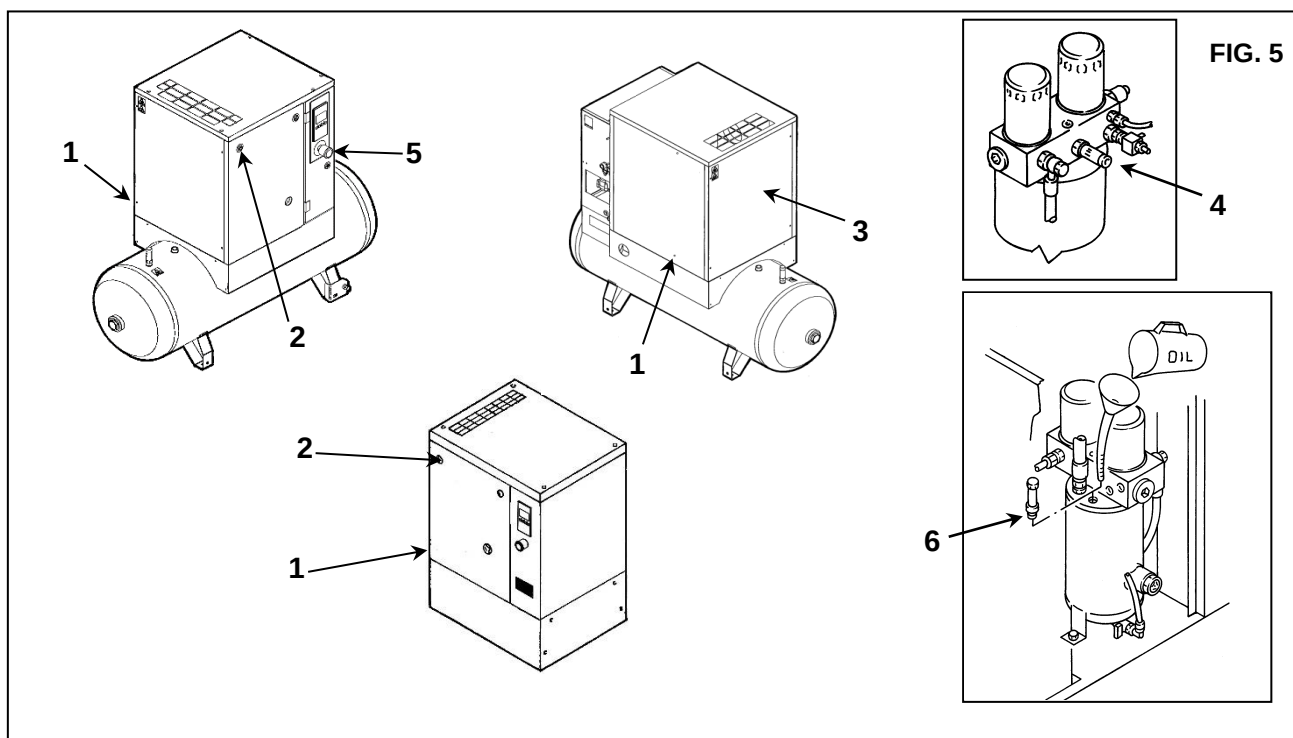

FIG. 5
7.1 SAFETY DEVICES FOR SCREW COMPRESSOR (FIG. 5)